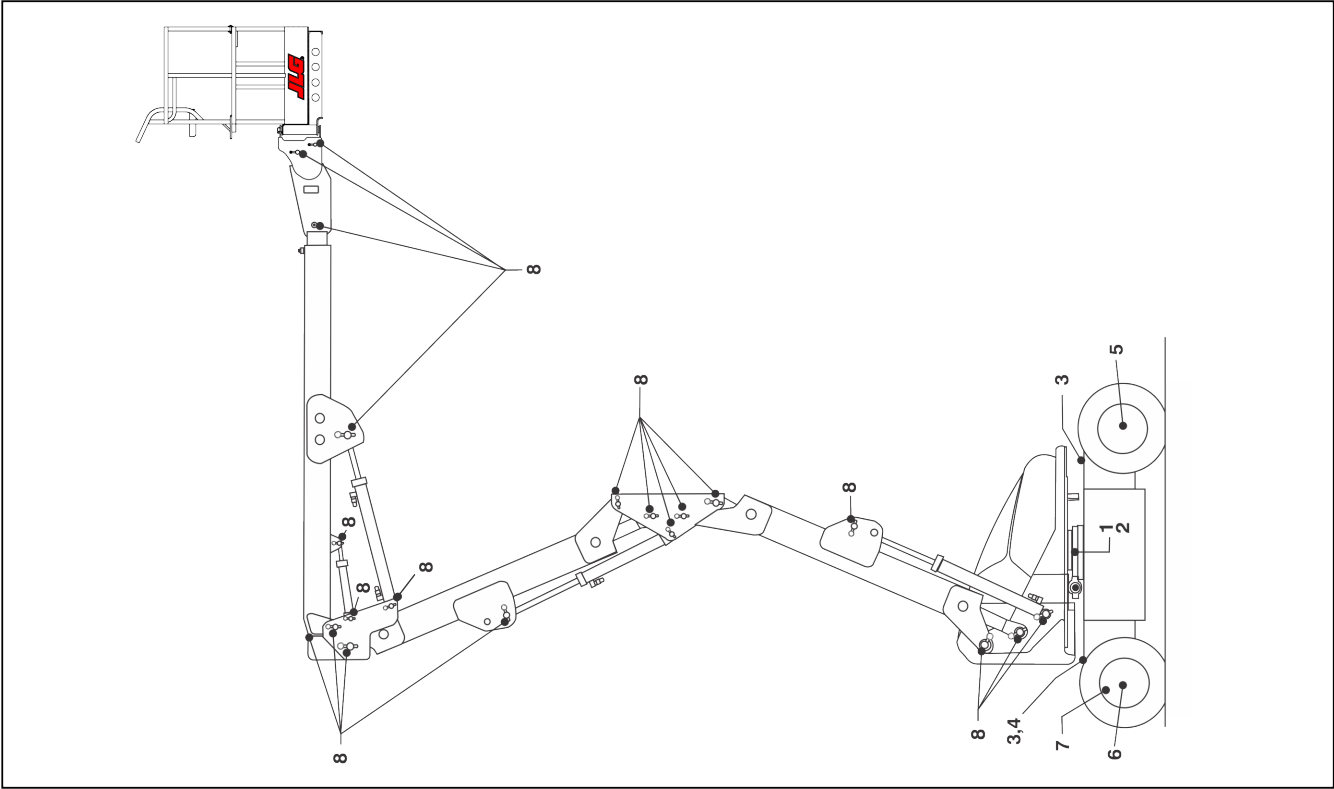

Figure 7-2. E450 Maintenance & Lubrication Diagram
**NOTE:** The following numbers correspond to those in Figure 7-2.